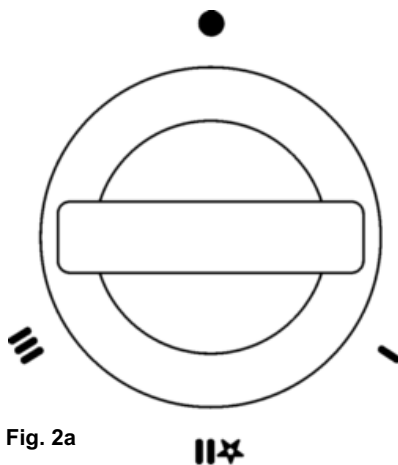

Fig. 2a
2. **To light the appliance** (Fig 2a): At the OFF (●) position push in the control knob as far as possible and still pushing in **slowly** turn anti-clockwise to the ignition position (★) to light the burner. Turning the control knob slowly allows gas to enter the burner ready for ignition. Keep the knob pushed in for 20 seconds and the burner should remain alight. If not, repeat the sequence.